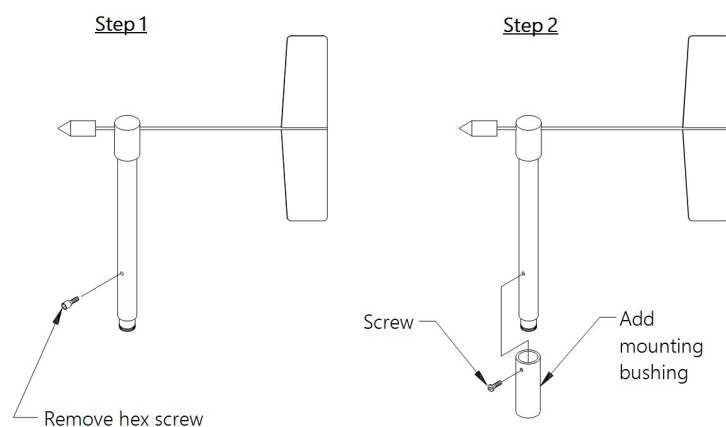

Figure 7-2. Bushing installation on 024A sensor
1. Remove the hex screw in the lower part of the sensor housing (Figure 7-2 [p. 9]).
2. Insert the 024A in the mounting bushing (Figure 7-2 [p. 9]).
3. Tighten the mounting bushing screw onto the sensor housing (Figure 7-2 [p. 9]).